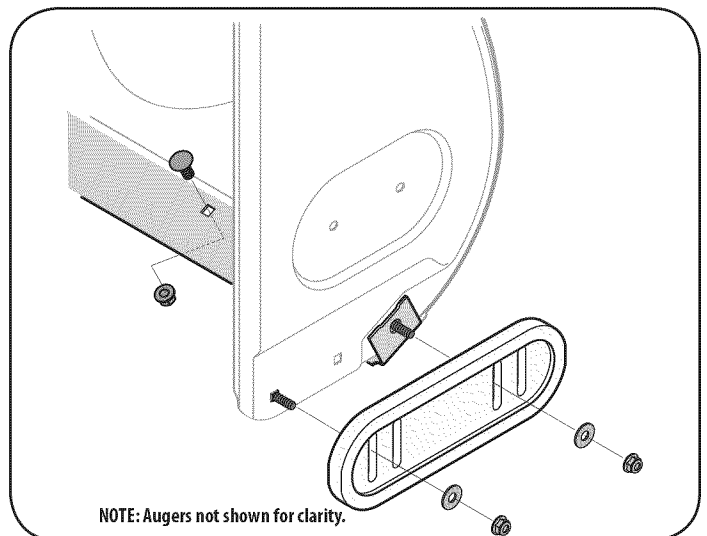

Figure 25
2. Reassemble new skid shoes with the four carriage bolts (two on each side), washers, and hex flange nuts. Refer to Figure 25.
4. Reassemble new shave plate, making sure heads of carriage bolts are to the inside of housing. Tighten securely. See Figure 25.